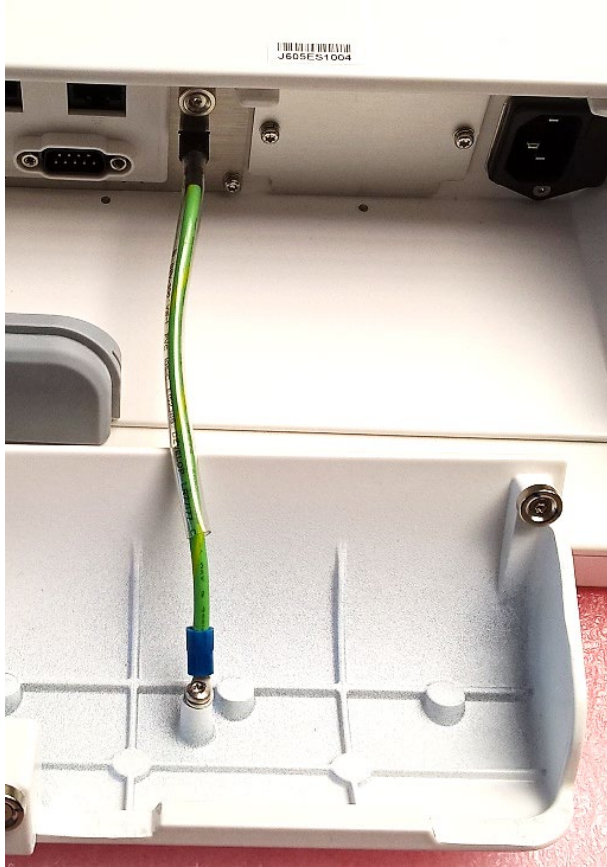
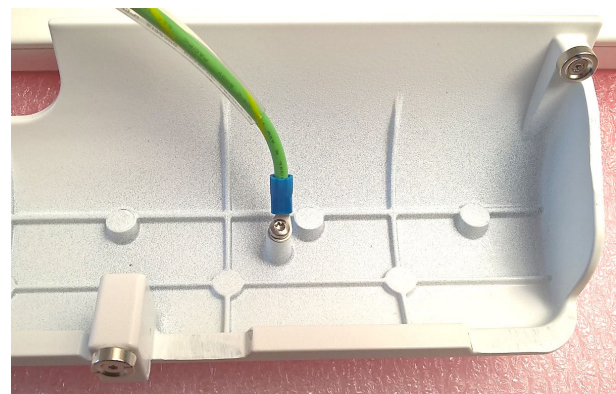

Figure 19: Protective earth strap
Figure 21: Protective earth strap, cable cover mounting point
6. If the yellow/green protective earth cable inside of the cable cover has been disconnected during installation, reconnect it to the contact provided at the I/O interface bezel of the MLC-S device as shown in Figure 19 to Figure 21 below.